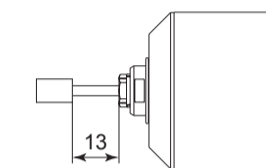

Fig. 12
- ① The proper surface speed for general grindstones is 10 - 30m/s.
- ② Do not exceed 13mm of overhang for mounted grindstones as shown in Fig. 12. If the overhang must exceed 13mm, reduce the motor speed in accordance with Table. 3.
- ③ Dress the grindstone prior to use.
- ④ Do not use cutting tools with bent or broken shanks, cracks or excessive run-out.
- ⑤ For grinding, the maximum depth of cut should not exceed 0.01mm radially or axially. Reciprocate the tool several times after each pass to eliminate tool pressure.
- ⑥ Always operate cutting tools within the allowable recommended speed of the cutting tools. Use of a cutting tool outside of the allowable speed of the cutting tools could cause damage to the Spindle and injury to the operator.
- ⑦ Keep the cutting tool shank and collet clean. If contaminants are left in the collet or collet nut, excessive run-out will cause damage to the cutting tool and or Spindle.
- ⑧ Do not strike or disassemble the Spindle.
- ⑨ Please set the cutting tools to minimize the overhang amount. 13mm is the maximum amount of overhang to maintain high accuracy and safety.